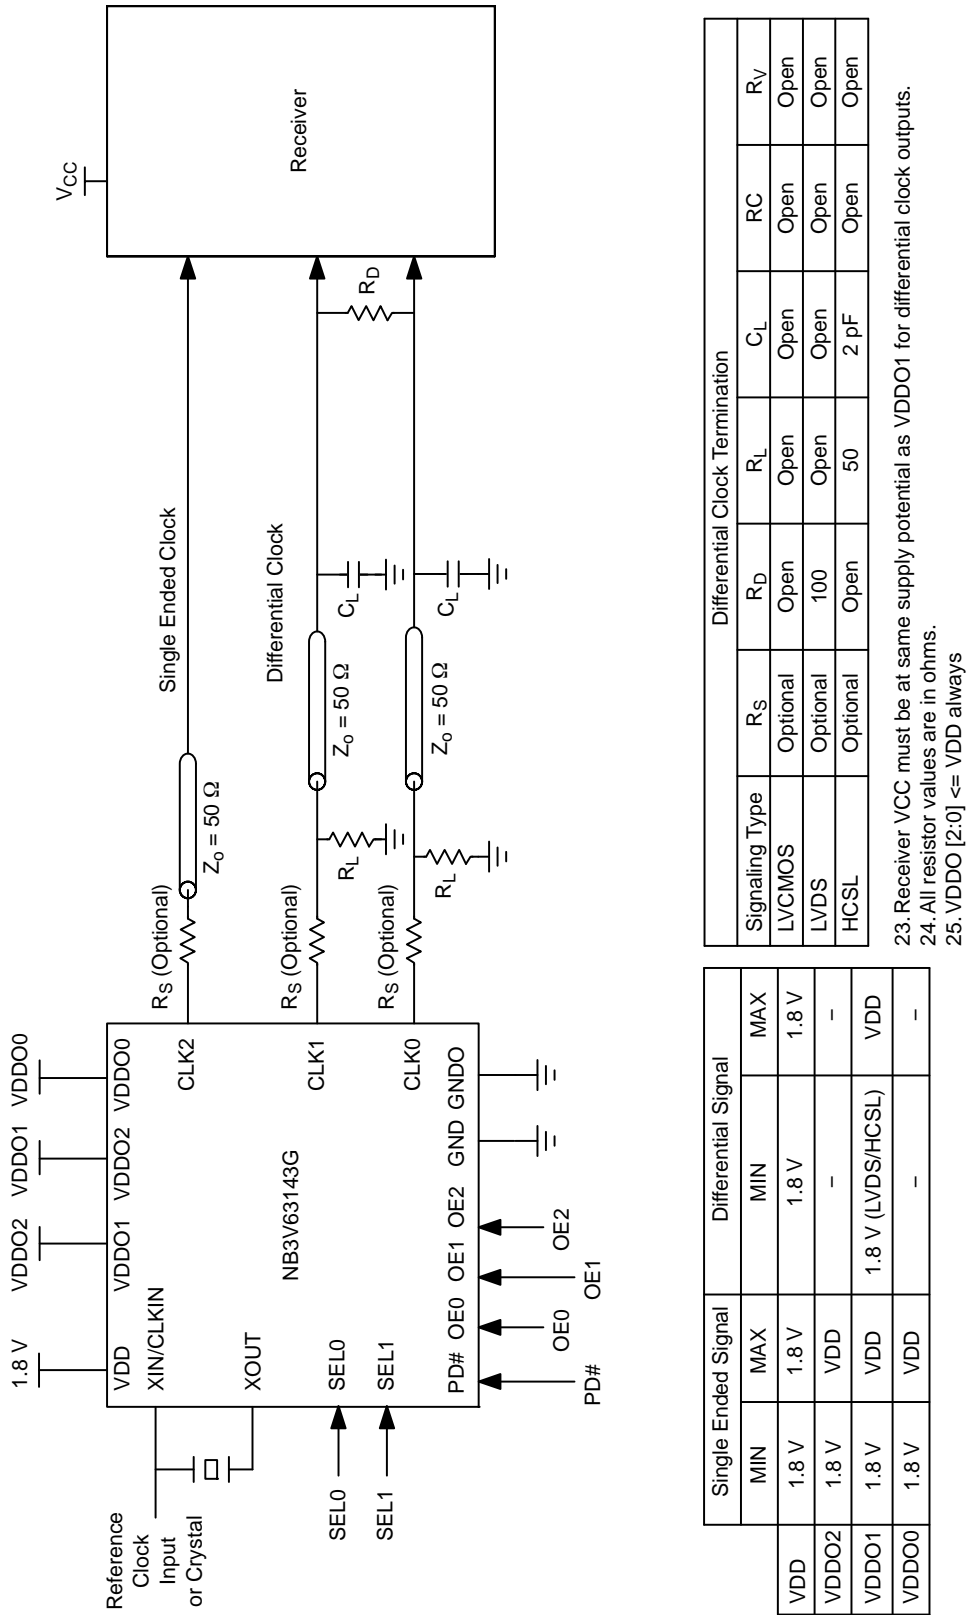

Figure 6. Typical Termination for Single Ended and Differential Signaling Device Load
7. Measurement taken with single ended clock outputs terminated with test load capacitance of 5 pF and 15 pF and differential clock terminated with test load of 2 pF. See Figures 6, 7 and 10.
17. Measurement taken from single ended clock terminated with test load capacitance of 5 pF and 15 pF and differential clock terminated with test load of 2 pF. See Figures 6, 7 and 10.